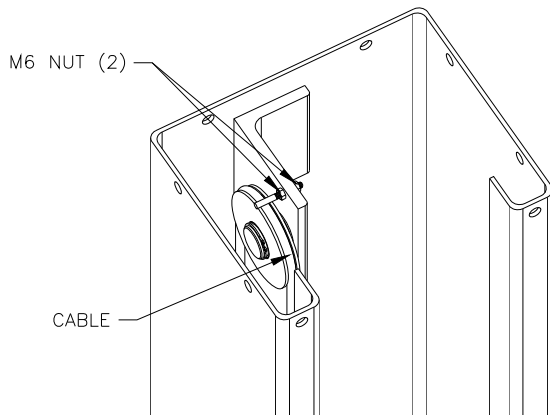

Fig 7-Upper Sheave
- 18) Remove the cable trapping bolt assembly, **Fig 7**, on the top sheave. Route the cable up through the carriage and over the sheave. Reinstall the cable trapping bolt assembly once cable is routed properly.